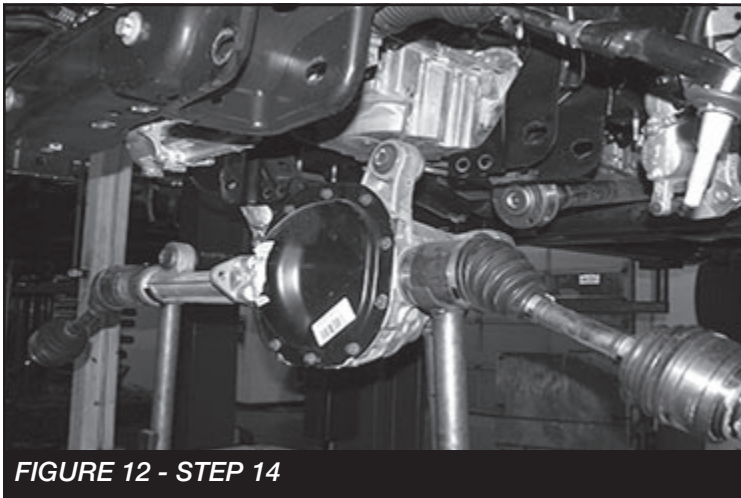

FIGURE 12 - STEP 14
14. Supporting the differential, remove the 3 differential mount bolts and save for re-installation. Remove the differential from the vehicle. **SEE FIGURE 12**